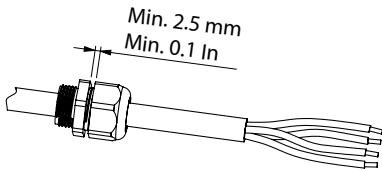
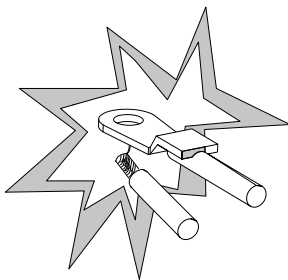

Fig.8
Fig.9
- Insert the power cable through the cable gland (Fig.8). The lead-in wire has to be of eyelet-type, pre-insulated, with the bore that suits the pins of the junction box. In order to avoid overheatings, use only conductors having a suitable cross-section. Ensure the cables are not frayed as this could cause a short circuit. (Fig.9)
- Close de cover by applying the gasket and tighten the cable gland so as the power cable is perfectly blocked. (Fig.8)